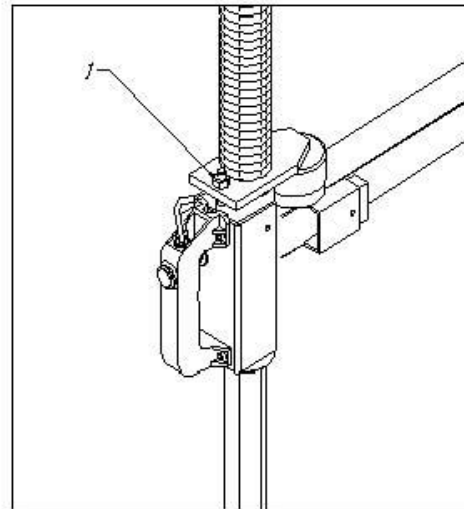

Figure 12-4
It is necessary to adjust the screw(1) in the locking plate of the mounting arm,if the mounting head doesn't lock or it doesn't rise from the rim of 2mm necessary for working.(figure 12-4)